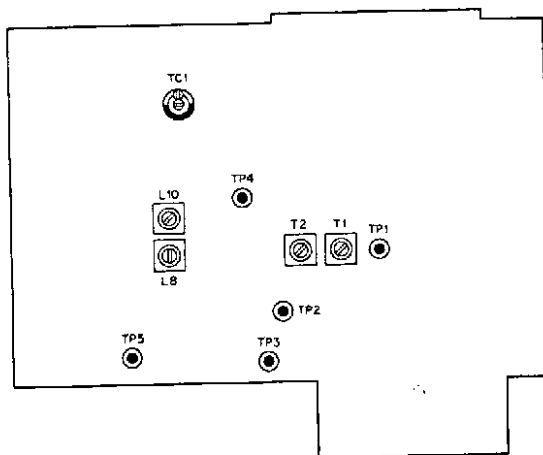

Fig. 33 Counter mixer unit (DG-1: Option)
- 2) Adjust the trimmer TC1 in the counter mix unit for $1 \text{ MHz} \pm 5 \text{ Hz}$ (refer to Fig. 33).
- 2) Connect RF VTVM to TP2 in the counter-mixer unit (X48-1150-00) and adjust T1 and T2 in the same unit until the peak value is obtained (output is approx. 0.12 to 0.2V) (refer to Fig. 33).